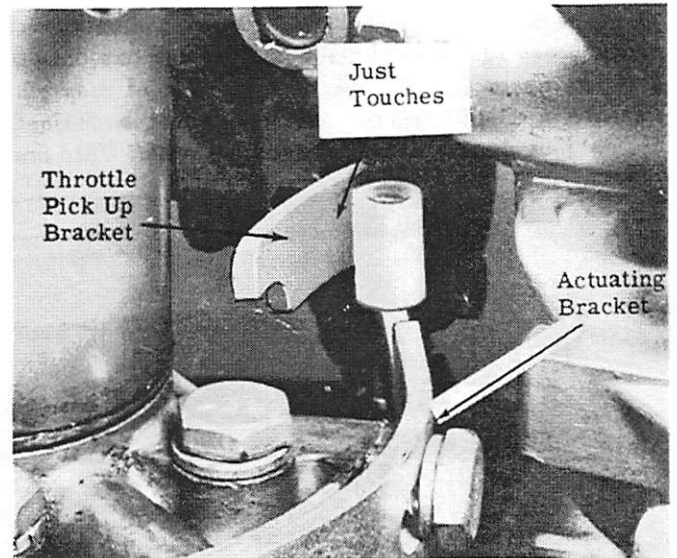

Figure 7. Pickup Adjustment
B. Pickup and Synchronization Adjustment (Figure 7)